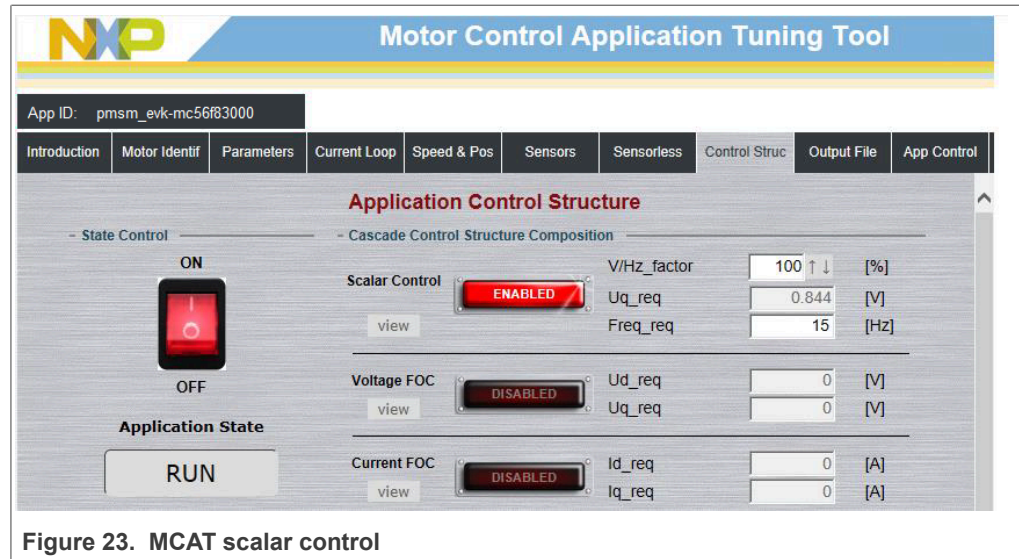

Figure 23. MCAT scalar control
- Set the required frequency value in the “Freq_req” field; for example, 15 Hz in the “Scalar Control” section. The motor starts running (Figure 23).